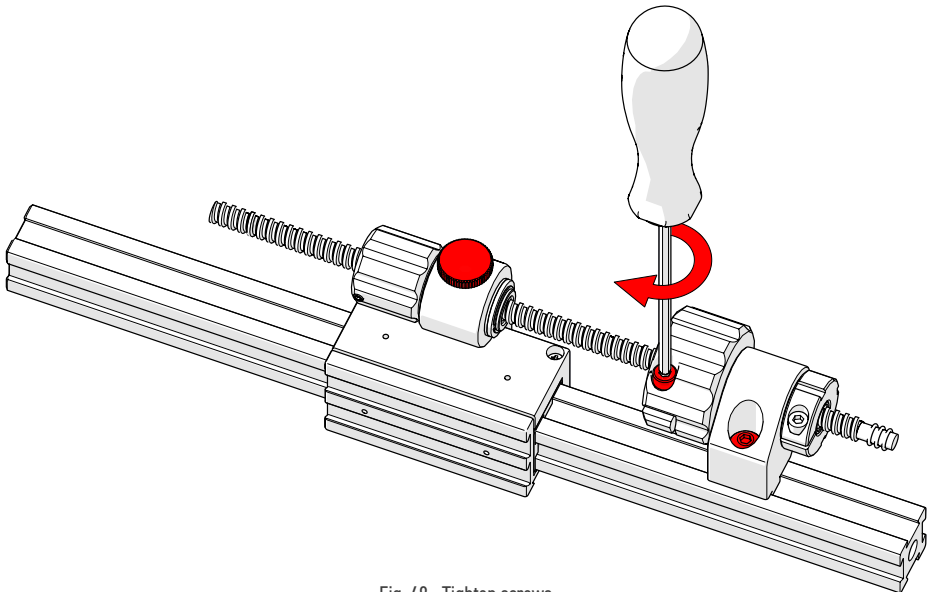

Fig. 69 - Tighten screws
7. Tighten the main knob's hexagonal screw and lock screw, and tighten the slider lock knob (Fig. 69 - note red highlight).